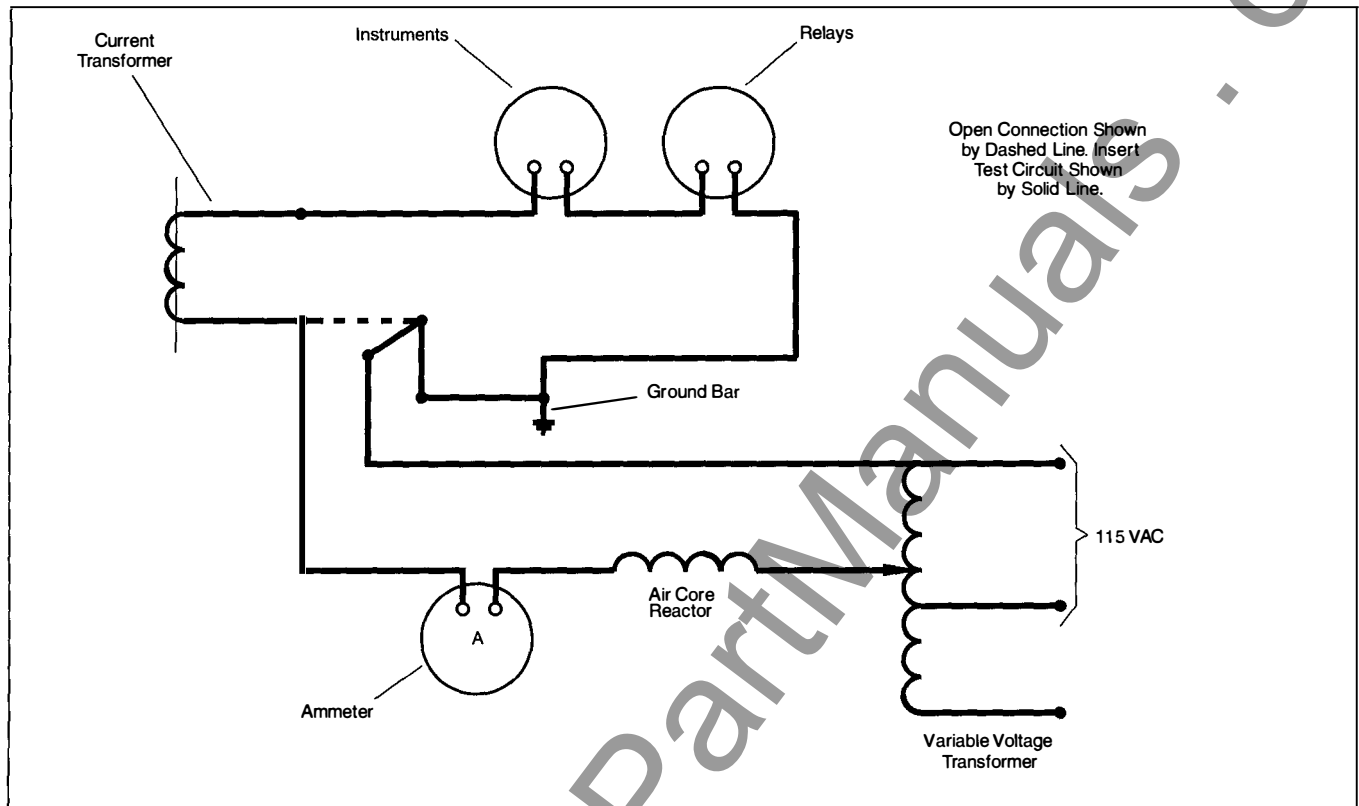

Figure 32. Current Transformer Testing
4. Current transformer circuits are tested for continuity. As shown in **Figure 32**, with the switchgear installed but not energized, disconnect the "grounded" lead at the current transformer secondary terminal block connection, and pass a measurable amount of current not to exceed five amperes through the lead to ground. Pass sufficient current to observe operation of relays and instruments.